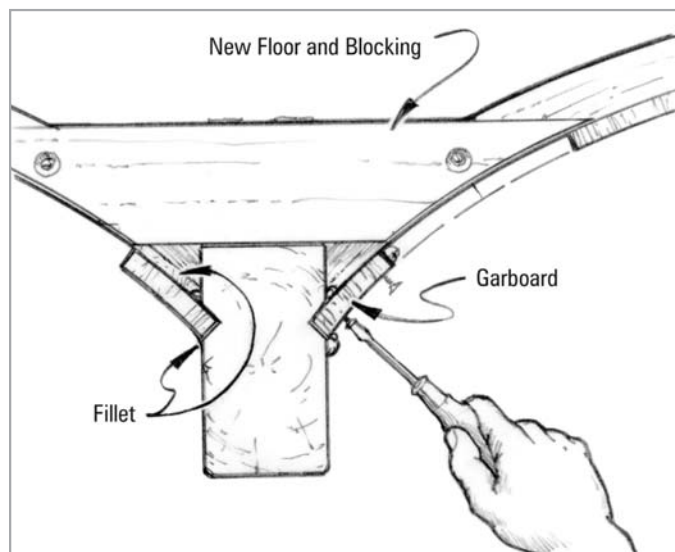

Figure 4-12 Bond the garboard back into position next to the keel.
5. Install the garboard with the original screws (*Figure 4-12*). Start at the middle and work toward both ends.